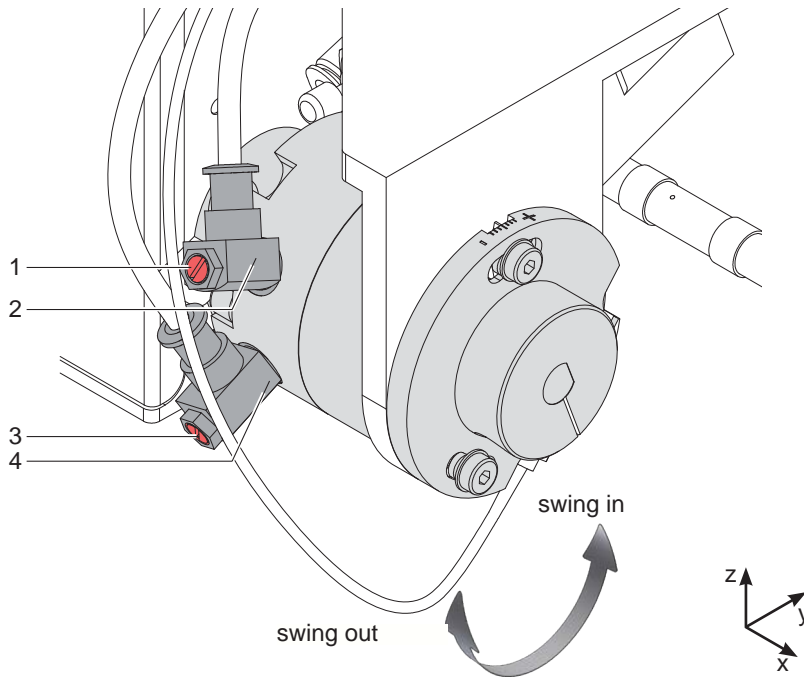

Fig. 31 One-Way Flow Control Valve on Cylinder R
1. Loosen screw (1) of sensor "start position Z" (3) and move the sensor so that the top edge of the sensor sits comfortably in the sensor holder.
4. Loosen screw (2) of the sensor holder.
5. Position the sensor so that it triggers securely, with lit up LED, when cylinder Z is completely contracted. This is achieved with the top edge of the sensor being about 10 mm from the top edge of the connection ring. (Fig. 31)
6. Tighten screw (2).